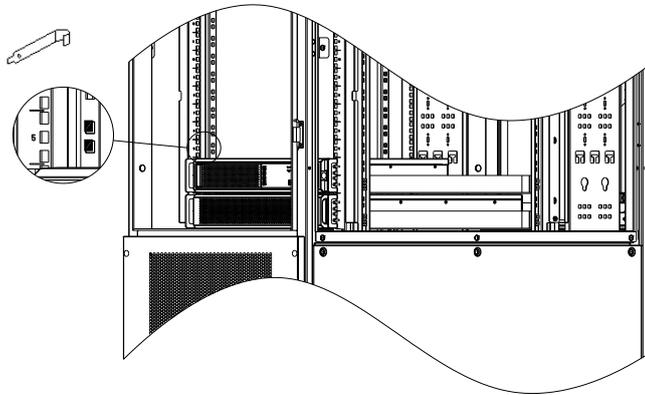

Figure 2-18 Install the floating nuts 1
3) Remove the two side panels of the cabinet and install floating nuts (8pcs) on the two square holes corresponding to the No.5U position on the column, as shown in Figure 2-18.